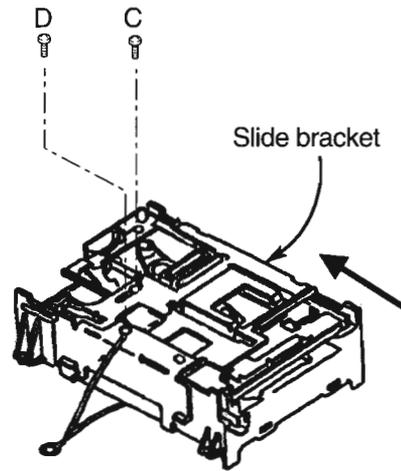

Fig.3
■ Removing the MD traverse mechanism (see Fig.3,4)
5. Remove the one screw ② retaining the clammer (see Fig. 3).